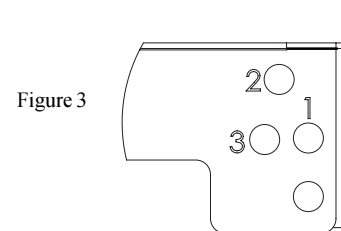

Figure 3
3. Greyfox module brackets are designed to work with other manufacturers' enclosures. There are holes in the brackets that will line up with the mounting holes in those enclosure. They are as follows (see Figure 3 for video mounting holes and Figure 4 for phone and data mounting holes):